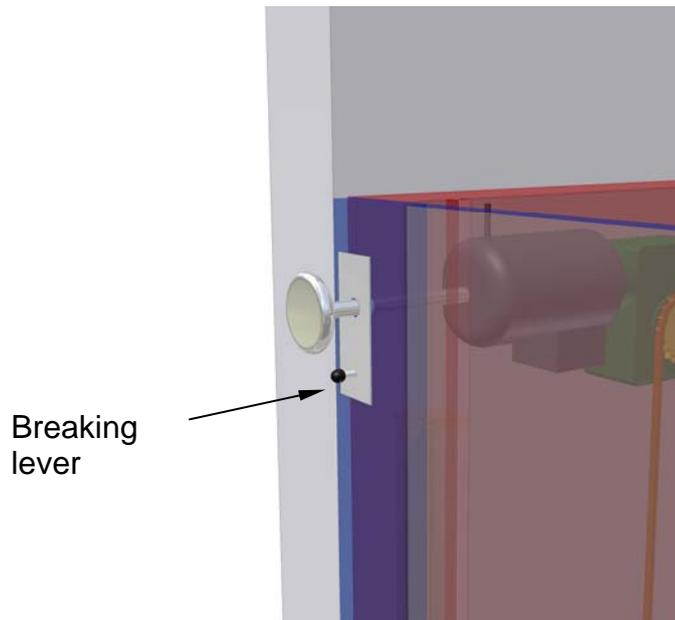

Abb. 2
3. Release motor brake by pulling or pressing the brake lever (positioned under the opening for the handwheel as per fig. 2 at the end of this section).